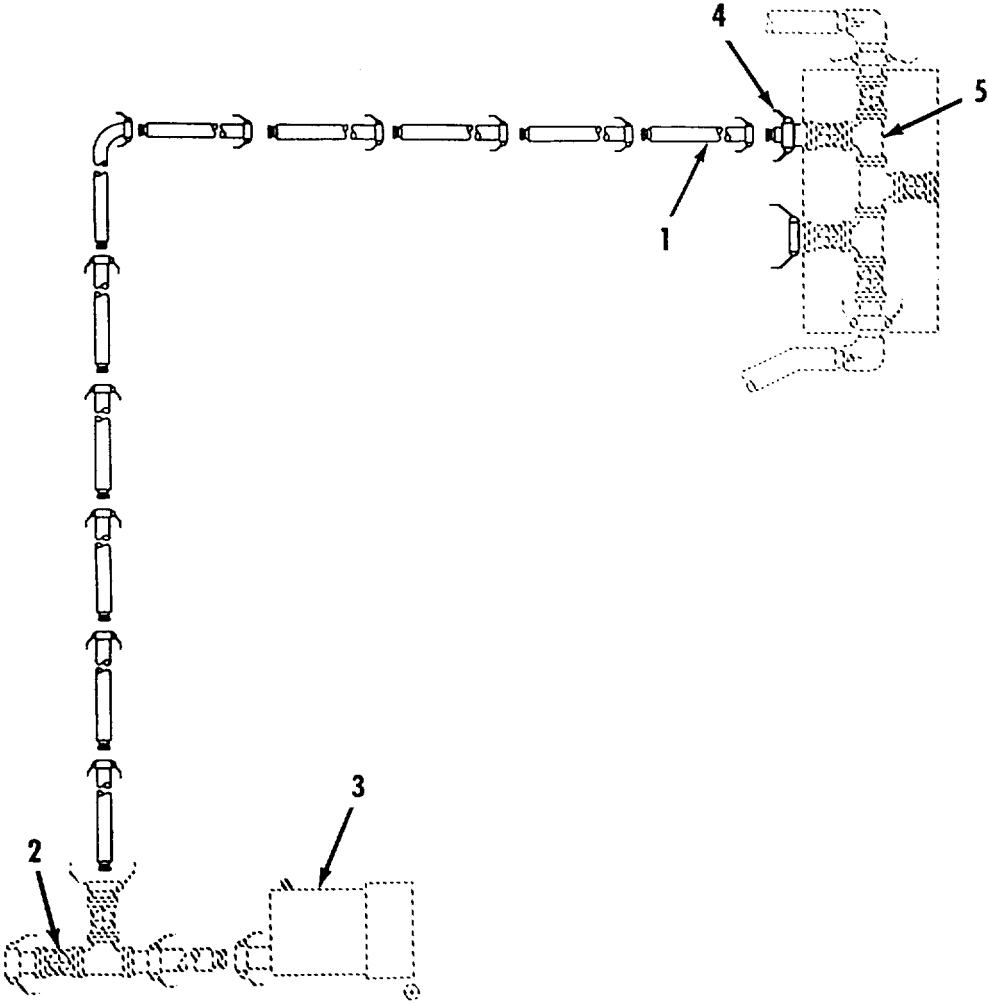

Figure 2-25. Fuel System - Fuel Return Hoses Installation.
- q. Fuel System - Fuel Return Hoses Installation. Refer to figure 2-25.